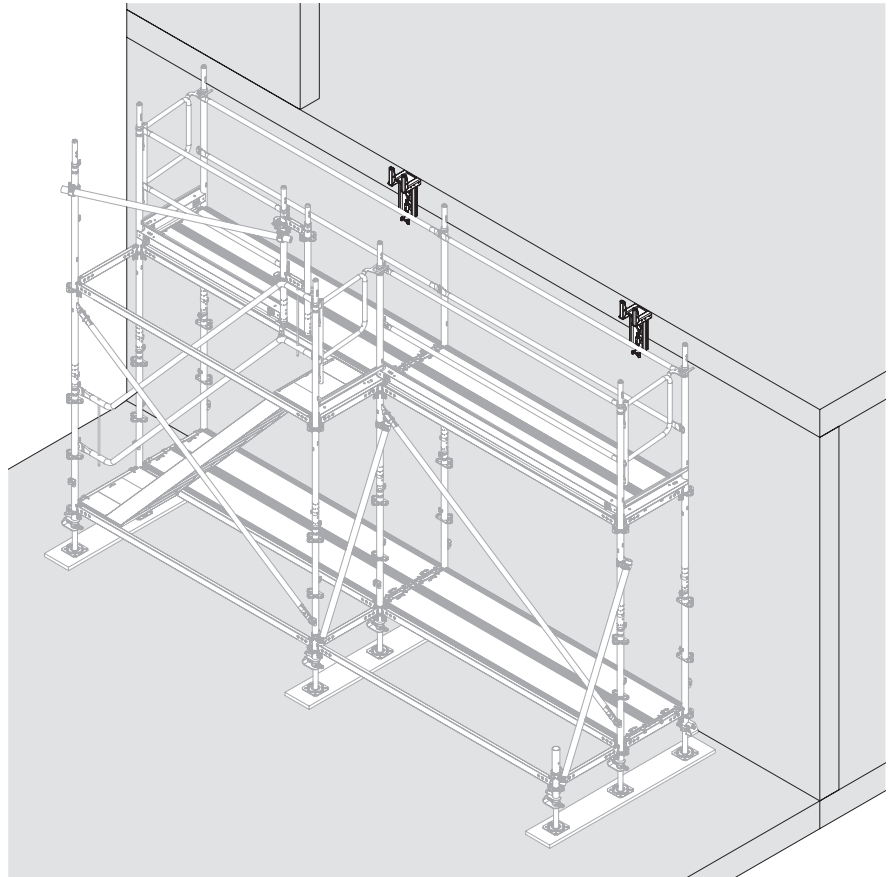

Fig. B1.01
- The slab thickness is 30 cm. (Fig. B1.01)